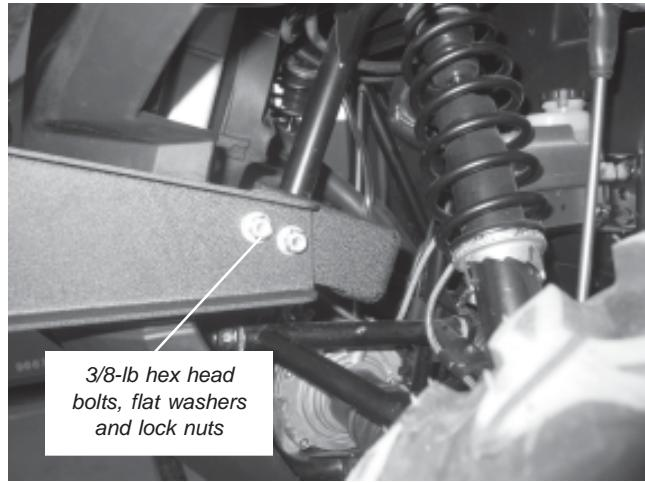

Figure 6
6. Align holes in frame mount bracket of bumper weldment with holes in wings of rear crossmember, as shown in Figure 6. Loosely attach with four 3/8-16" hex head bolts, flat washers and lock nut. A flat washer should be used under head of bolt and on top of locknut. A 9/16" socket and wrench can be used to loosely secure.